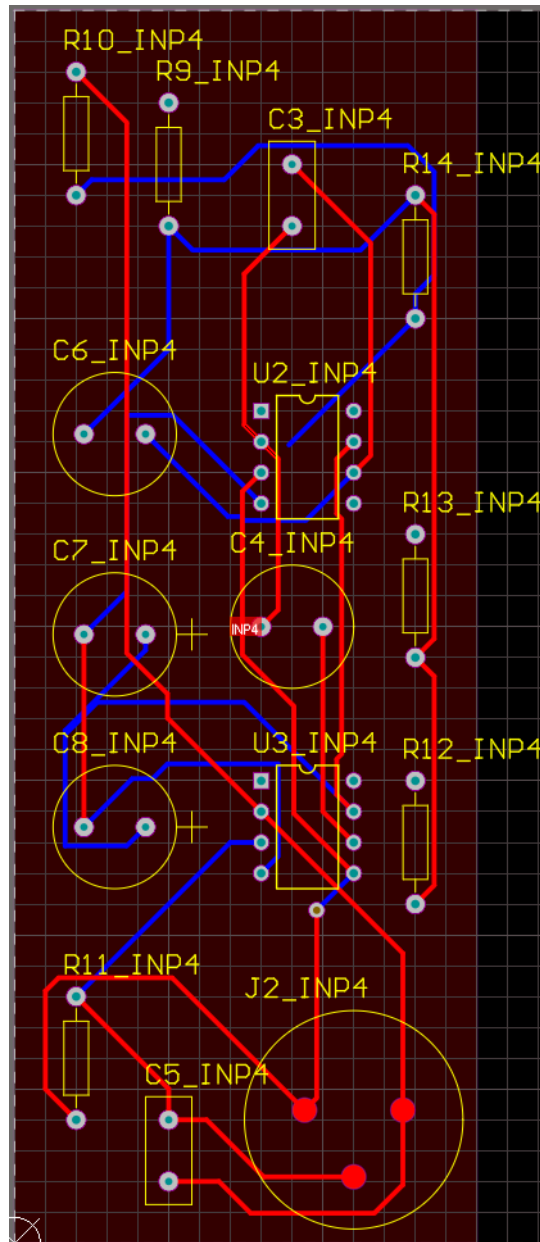

Figure 8. Room after auto routing
21. With the crosshair on your cursor, click on room **INP4** that you have resized and placed. In a few seconds, the room will be routed, as shown in Figure 8.